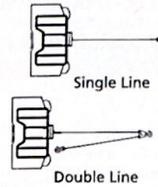

Figure 2
1. Maximum working load capacity is on the wire rope layer closest to the drum. **DO NOT OVERLOAD. DO NOT ATTEMPT PROLONGED PULLS AT HEAVY LOADS.** Overloads can damage the winch and/or the wire rope and create unsafe operating conditions. FOR LOADS OVER 1/2 RATED CAPACITY, WE RECOMMEND THE USE OF THE OPTIONAL PULLEY BLOCK TO DOUBLE LINE THE WIRE ROPE (Figure 2). This reduces the load on the winch and the strain on the wire rope by approximately 50%. Attach hook to load bearing part. **The vehicle engine should be running during winch operation.** If considerable winching is performed with the engine off, the battery may be too weak to restart the engine.